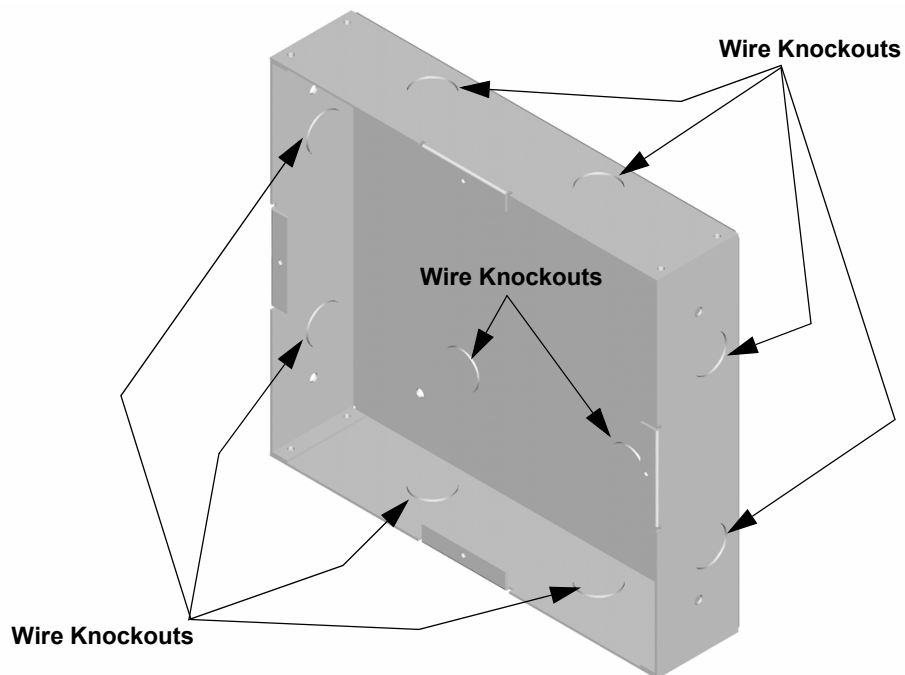

Figure 4.13 Backbox Knockout Locations
2. Remove knockout holes as needed for wires. See Figure 4.13 for backbox knockout locations.
- Remove the desired knock out. See Figure 4.13.